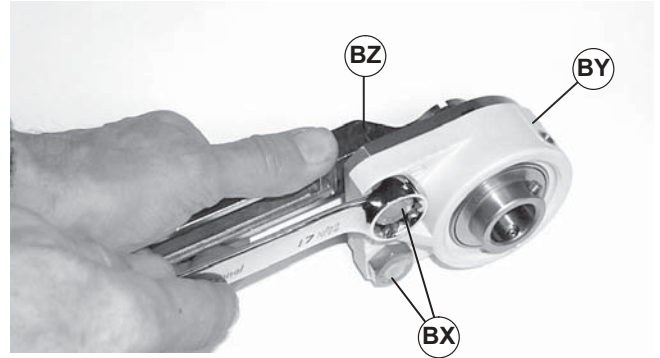

Figure 45
1. Using a 17 mm wrench, remove two hex head screws (Figure 45, item BX) from bearing (BY) and head plate (BZ).
1. Install bearing (Figure 45, item BY) on head plate (BZ) with two hex head screws (BX). Tighten screws to 36 ft-lb (49 Nm). Check after 24 hrs. of conveyor usage.